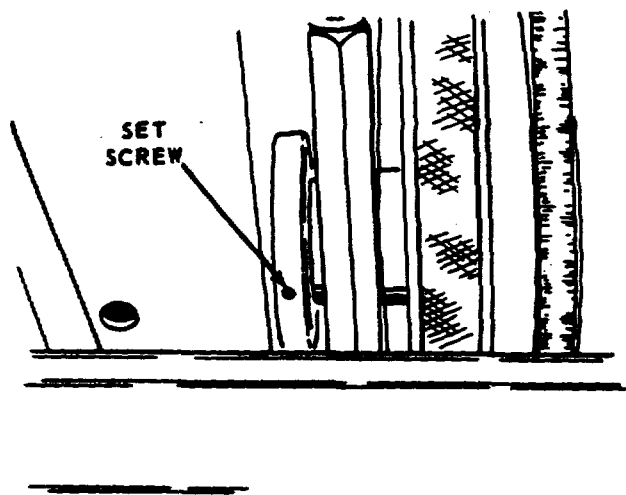

FIGURE 124
- (h) See Figure 124. Loosen Set Screw with 3/32-inch hex wrench.
- (j) See Figure 124. Tighten Set Screw (just snugly, please).